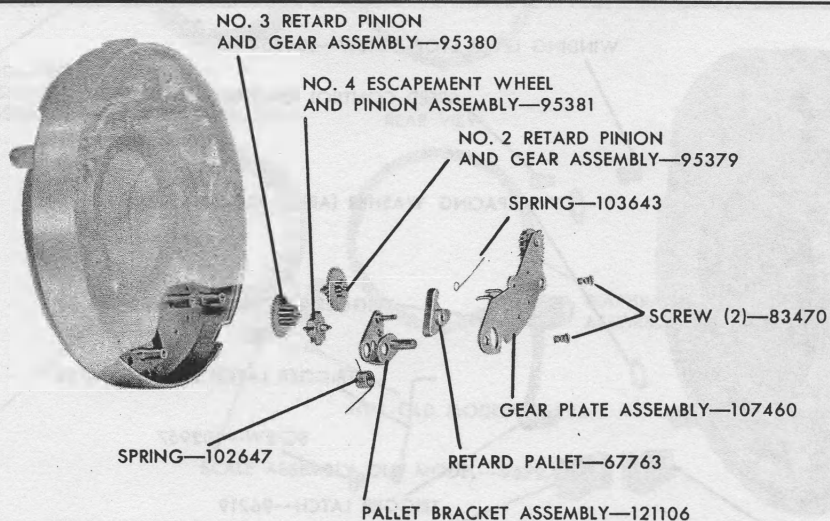

Figure 6
6. Diaphragm retainer plate with wings assembled, with the cutout slot in the outer edge of the retainer plate over the opening in the mechanism for the PALLET BRACKET with stud assembly, figure 6. After the retainer plate is secured, the shutter blades should operate freely.